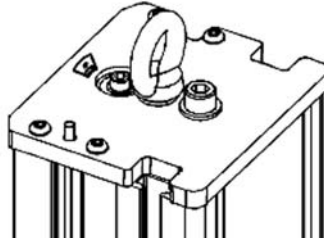

Figure 3-1. Eyebolt for lifting the frame
6. Insert the crane hook into the eyebolt on top of the frame column (see Figure 3-1 on page 3-4).
For some systems, the eyebolt is removed prior to shipping. If the eyebolt is missing from your machine, it will be packed in an envelope inside one of the unsealed boxes, usually in the box that contains the system documentation. Screw the eyebolt into the top of the frame column as shown in Figure 3-1 on page 3-4.